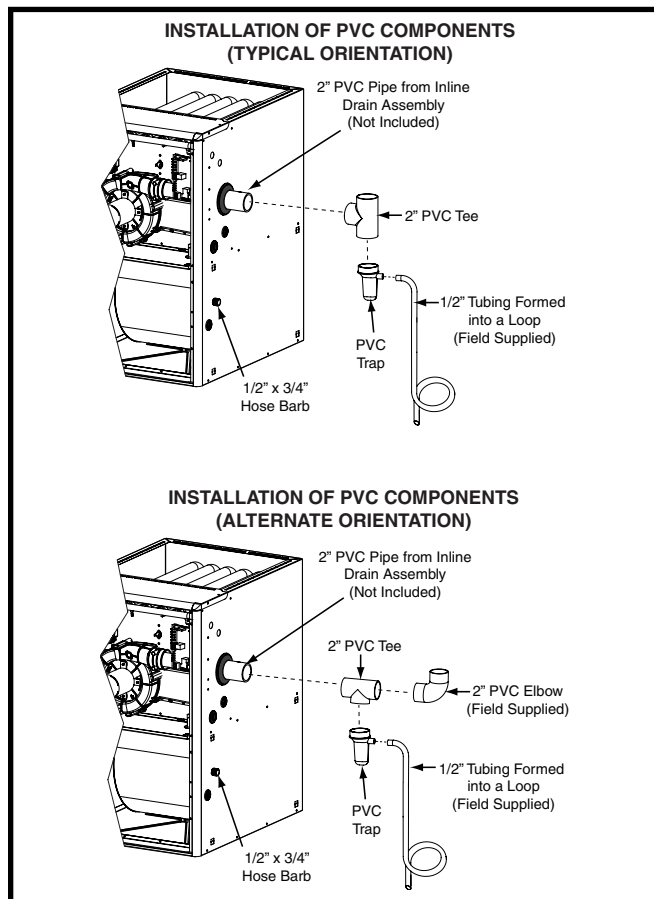

Figure 21. PVC Components
- The 2" PVC components shown in Figure 21 are not provided in the extra parts bag. However the PVC Trap (P/N 664659) can be purchased thru your local distributor.
The 2" PVC tee, reducer, PVC Trap and 1/2" X 1/2" hose barb are used when the inducer is rotated to vent out thru the left or right side of the furnace cabinet. See Figure 21.
1. Install the PVC Tee vertically on the 2" vent pipe that is extending out the side of the cabinet. Permanently bond them together using appropriate primer and cement. Refer to the typical orientation shown in Figure 21.
1. Install the 2" PVC Tee horizontally on the 2" vent pipe that is extending out the side of the cabinet. Permanently bond them together using appropriate primer and cement. Refer to the alternate orientation shown in Figure 21.